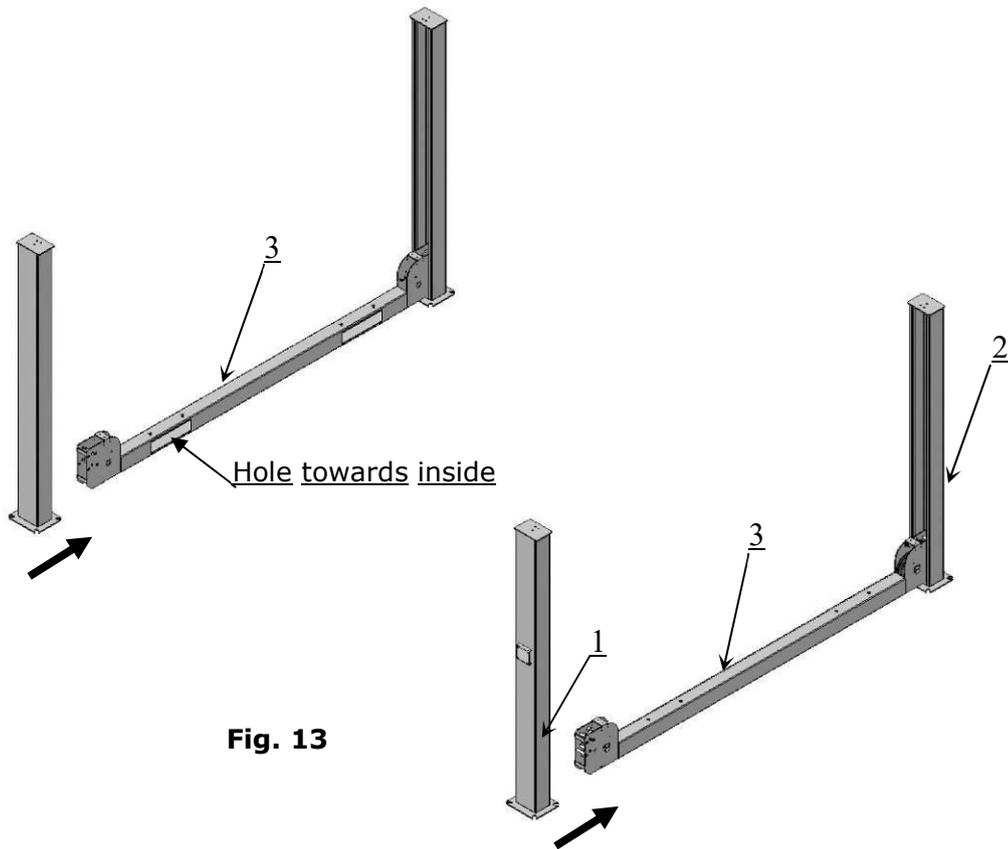

Fig. 13
D. Install cross beams (See Fig. 13).